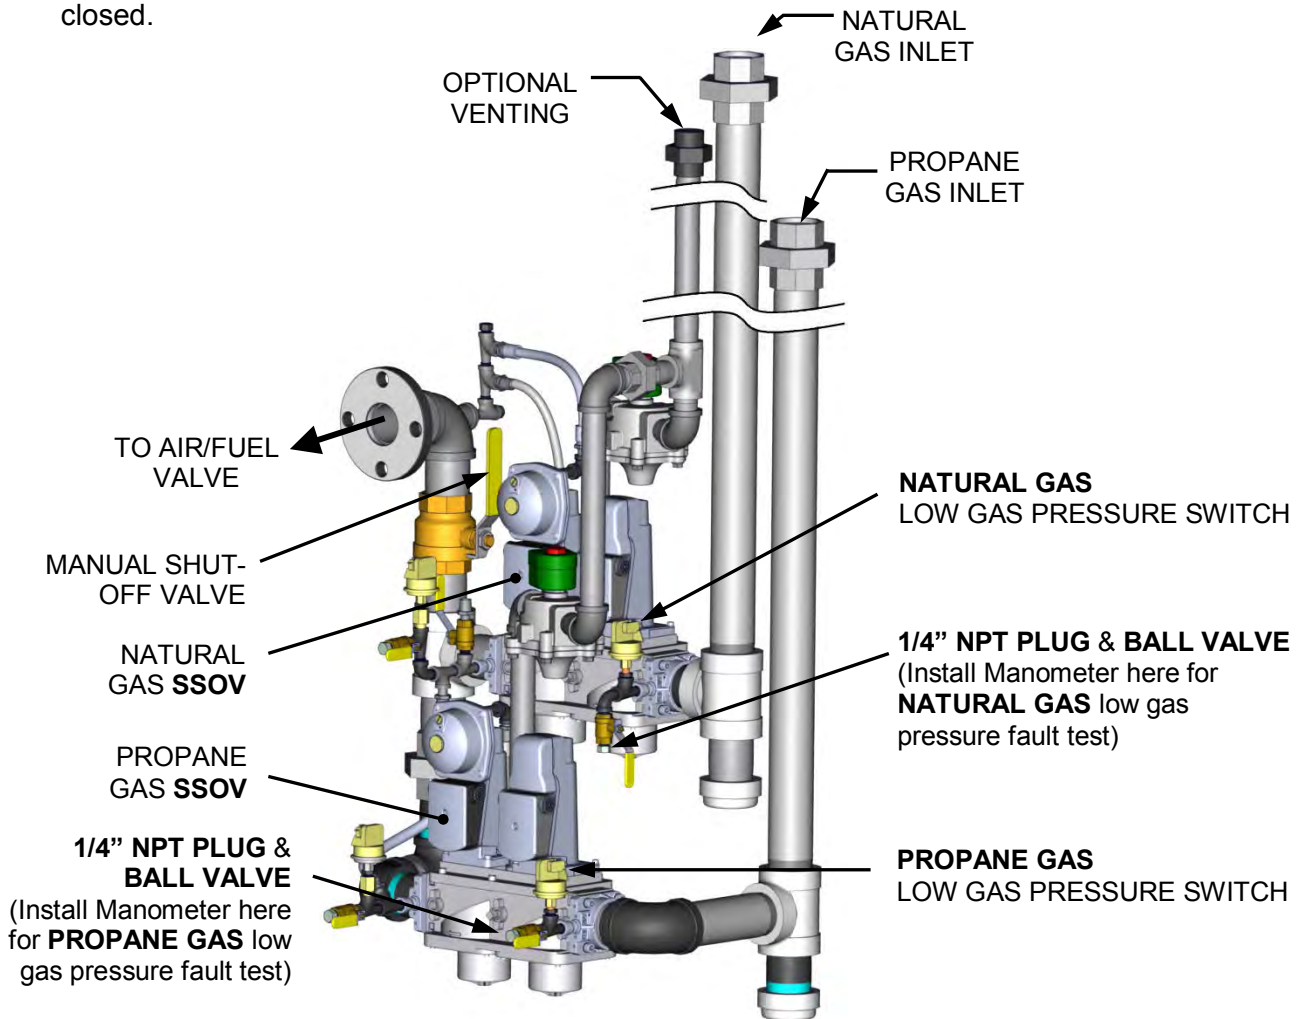

Figure 6-1A: Low Gas Pressure Test (BMK 3000DF DBB Gas Train Pictured)
Refer to Figure 6-1A and ensure that the ball valve located at the low gas pressure switch is closed.
1. Remove the 1/4" plug from the appropriate (Natural Gas or Propane) ball valve at the associated Low Gas Pressure switch as shown in Figure 6-1A.